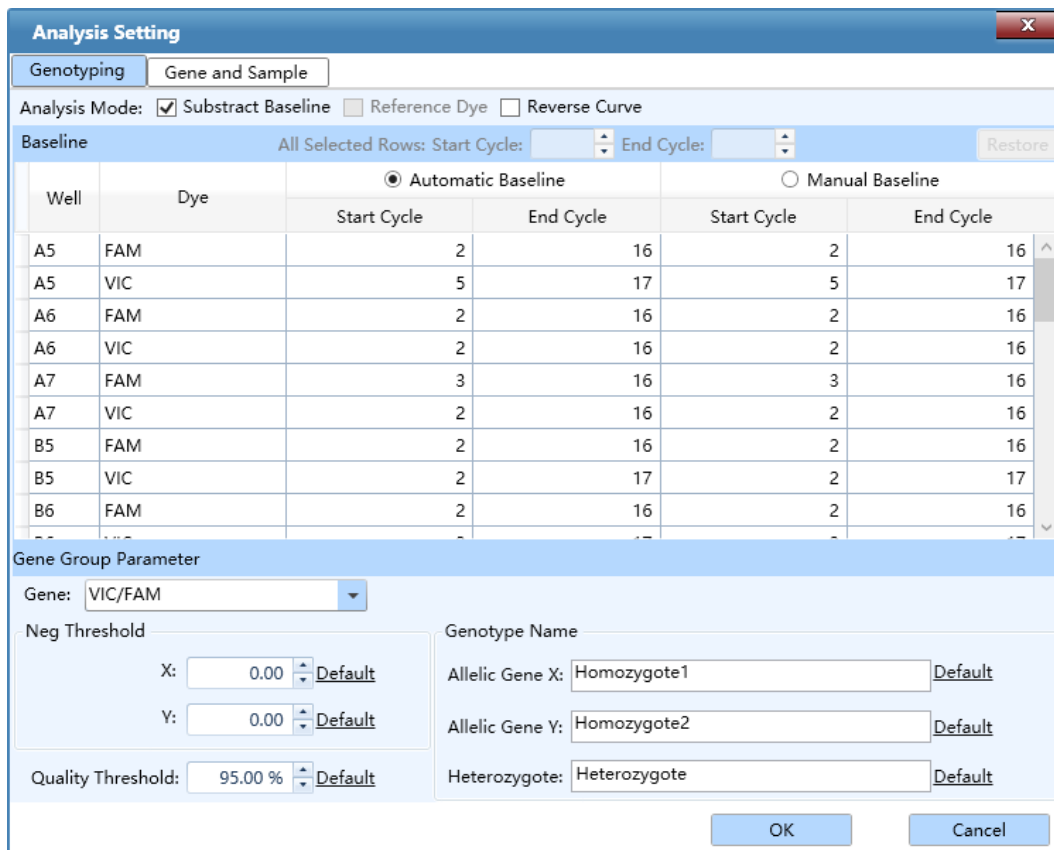

Figure D-17. Genotyping Analysis Setting Interface - Genotyping Tab
- Genotyping** tab: user can set **Analysis Mode** and **Gene Group Parameter** in **Genotyping** tab, as shown in figure D-17.